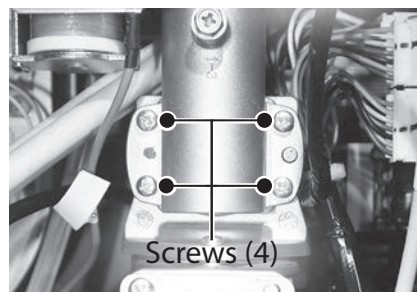

Figure 150 - Remove screws securing gas valve
- 42 Locate and remove the four screws securing the gas valve to the gas manifold. Place screws aside in a safe place for reinstallation. See Figure 150.
77 Locate the four gas valve screws previously removed in **Step 42**. Secure gas valve to the gas manifold and heat exchanger assembly. See Figure 150.